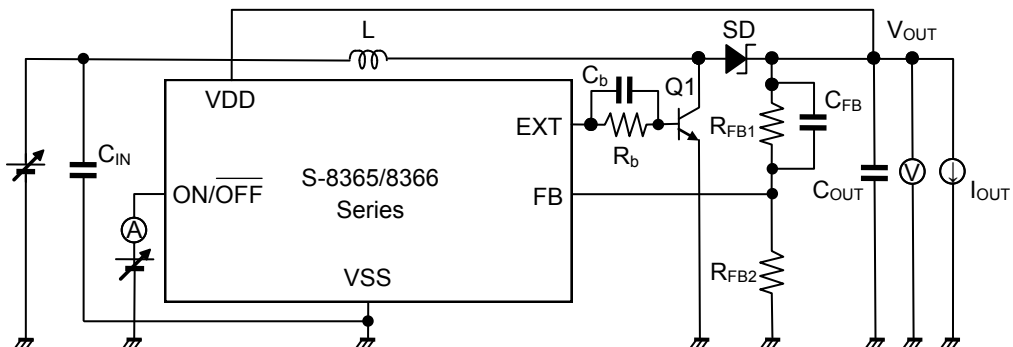

Figure 10
- \*2. This is the guaranteed value measured with external parts shown in “Table 10 External Parts List” and with test circuits shown in Figure 10. The operating start voltage varies largely depending on diode’s forward voltage. Evaluate sufficiently with actual device.
- \*2. This is the guaranteed value measured with external parts shown in “**Table 10 External Parts List**” and with test circuits shown in **Figure 10**. The operating start voltage varies largely depending on diode's forward voltage. Evaluate sufficiently with actual device.